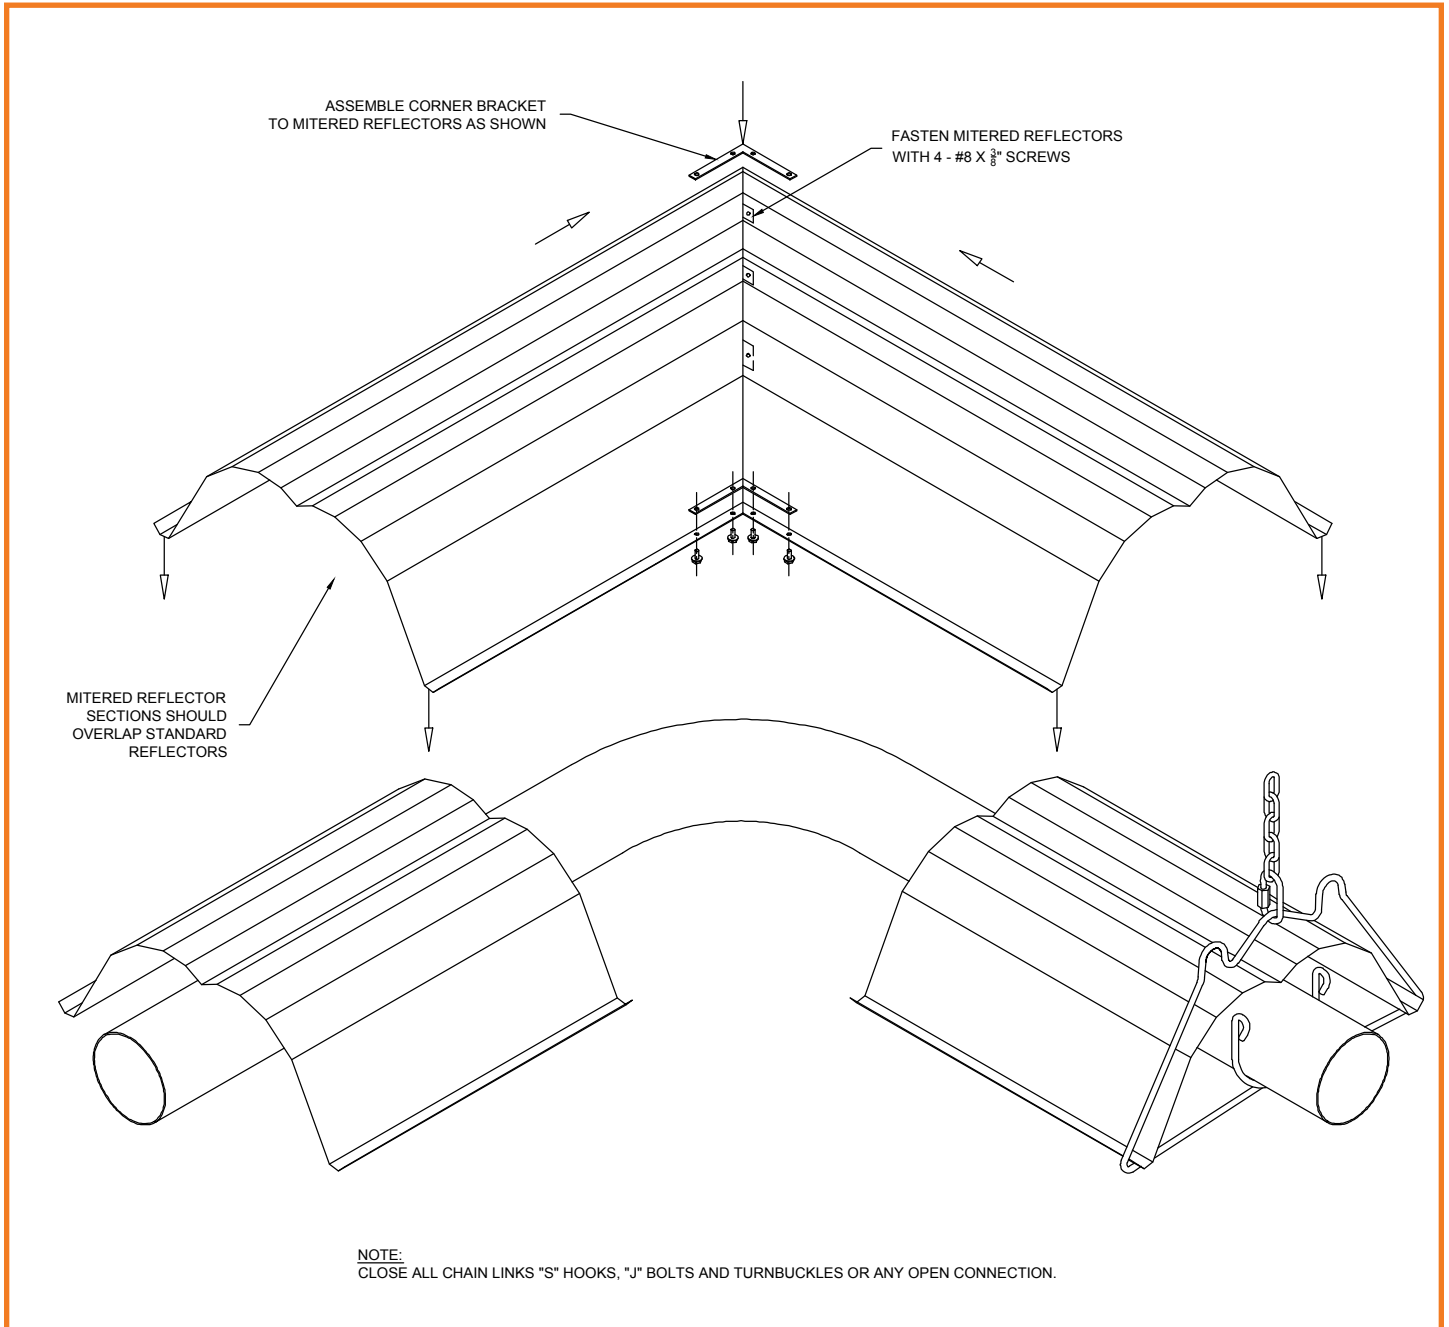

Figure 20: Mitered Reflector Installation
- If used, install the Mitered Reflector as shown below (Figure 20).